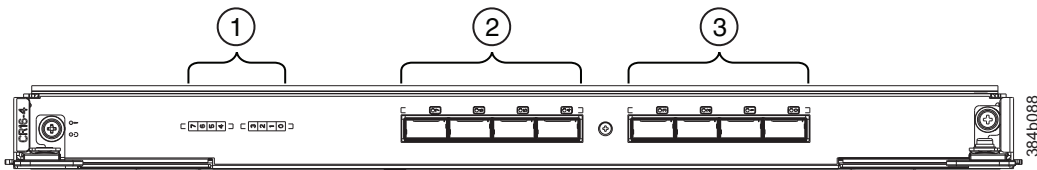

Figure 56. CR16-4 core blade
- Figure 56 shows a CR16-4 core blade